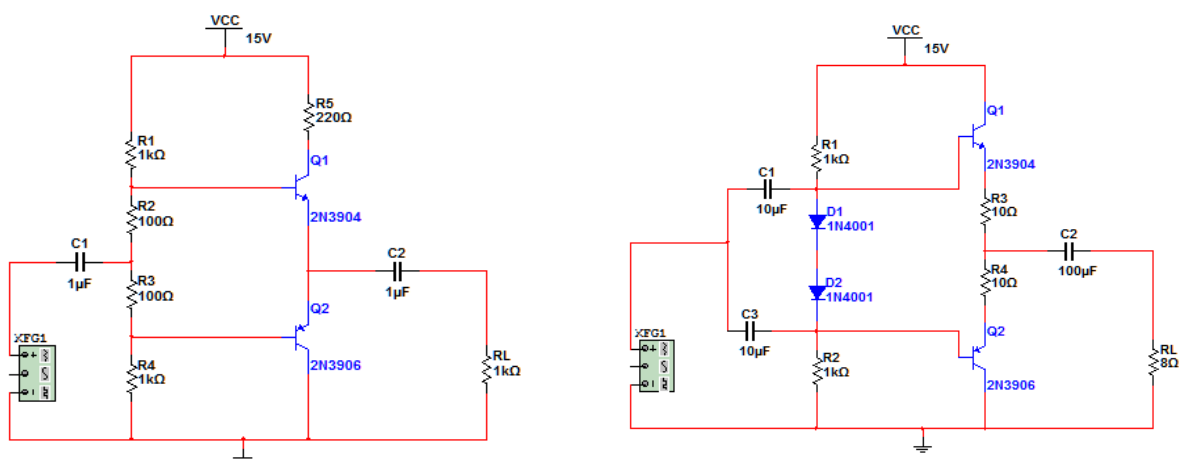

Figure 2: Class AB Push-pull amplifier with resistor and diode biasing
4. Now, make the circuit as shown in figure 2.